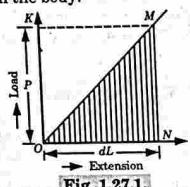

Fig. 1.27.1.
1. Fig. 1.27.1 shows load extension diagram of a body under tensile test upto elastic limit.
5. Now, work done by the load = Area of load extension curve (Shaded area in Fig. 1.27.1)